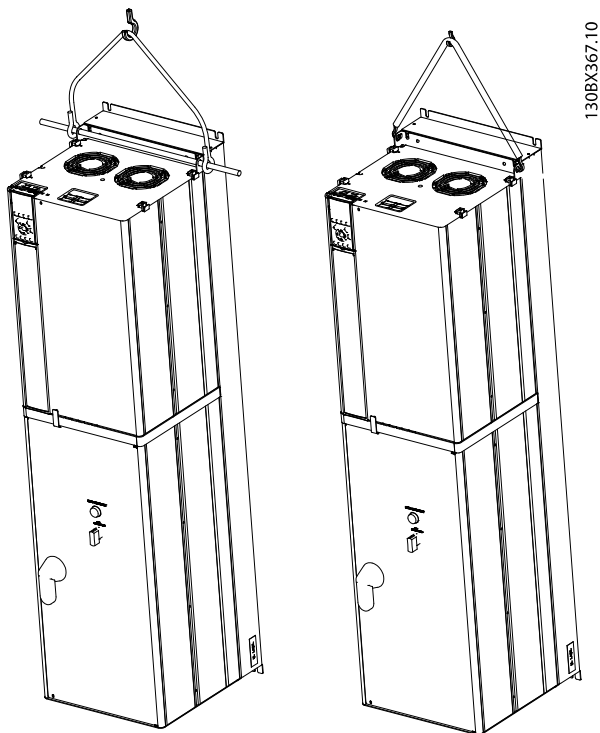

Figure 3.1 Proper Lifting Method
- Use a solid steel spreader bar for lifting. Slide the spreader bar through the two (2) lifting holes on the panel. Lifting rings are 0.59in (15mm) in diameter (see *Figure 3.1*). If VFD mounting screws interfere with the spreader bar, lifting hooks can be used instead of the lifting bar.